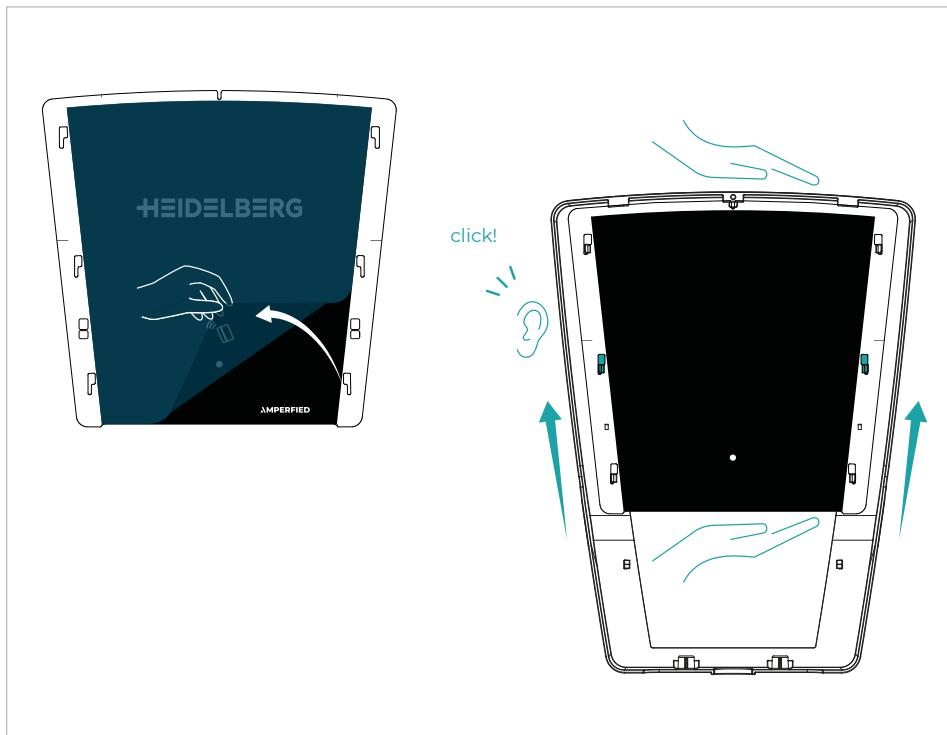

Fig. 9
- Peel the protective film off the cover, as shown in **Fig. 9**.